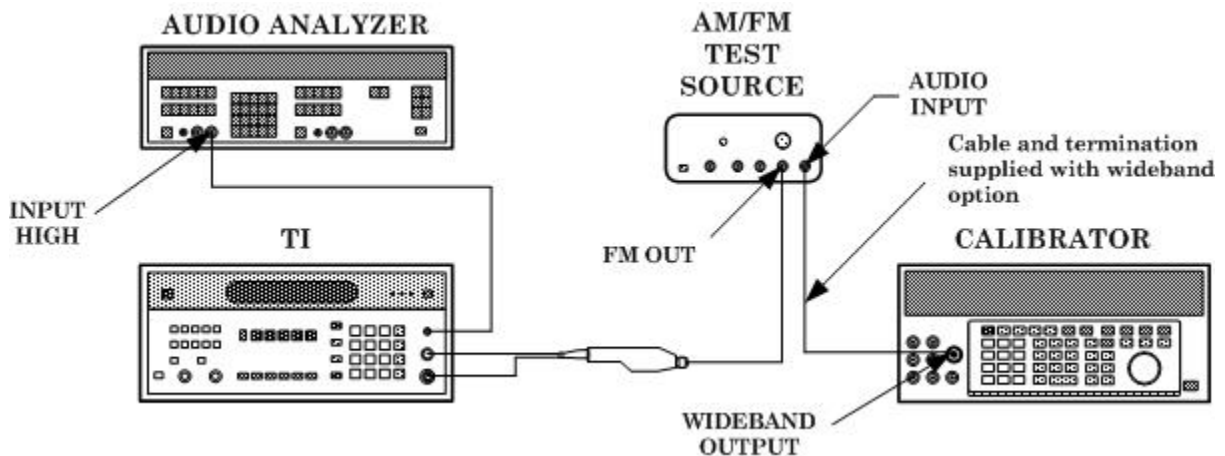

Figure 11. Phase modulation setup.
- (1) Press TI **INSTR PRESET** key.
- (2) Set AM/FM test source **TEST MODE** switch to **FM** and connect equipment as shown in figure 11 below.